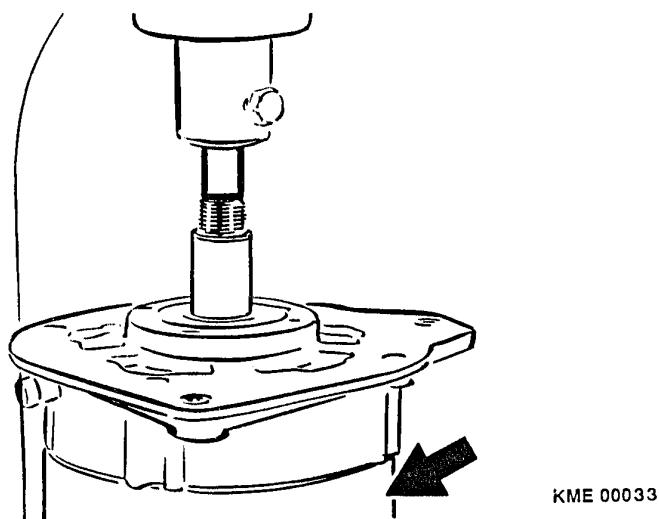

Figure 18 Pressing out Rotor
2. Place pressing ring into an arbor press. (Figure 18)